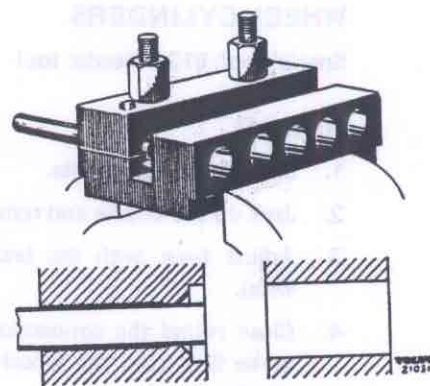

Fig. 52-26. Flanging the brake pipe
4. Place tool 2049 in a vice and double flange the pipe. Insert the pipe so far that its end comes flush with the clamping jaw, see Fig. 52-26. Tighten up the nuts.